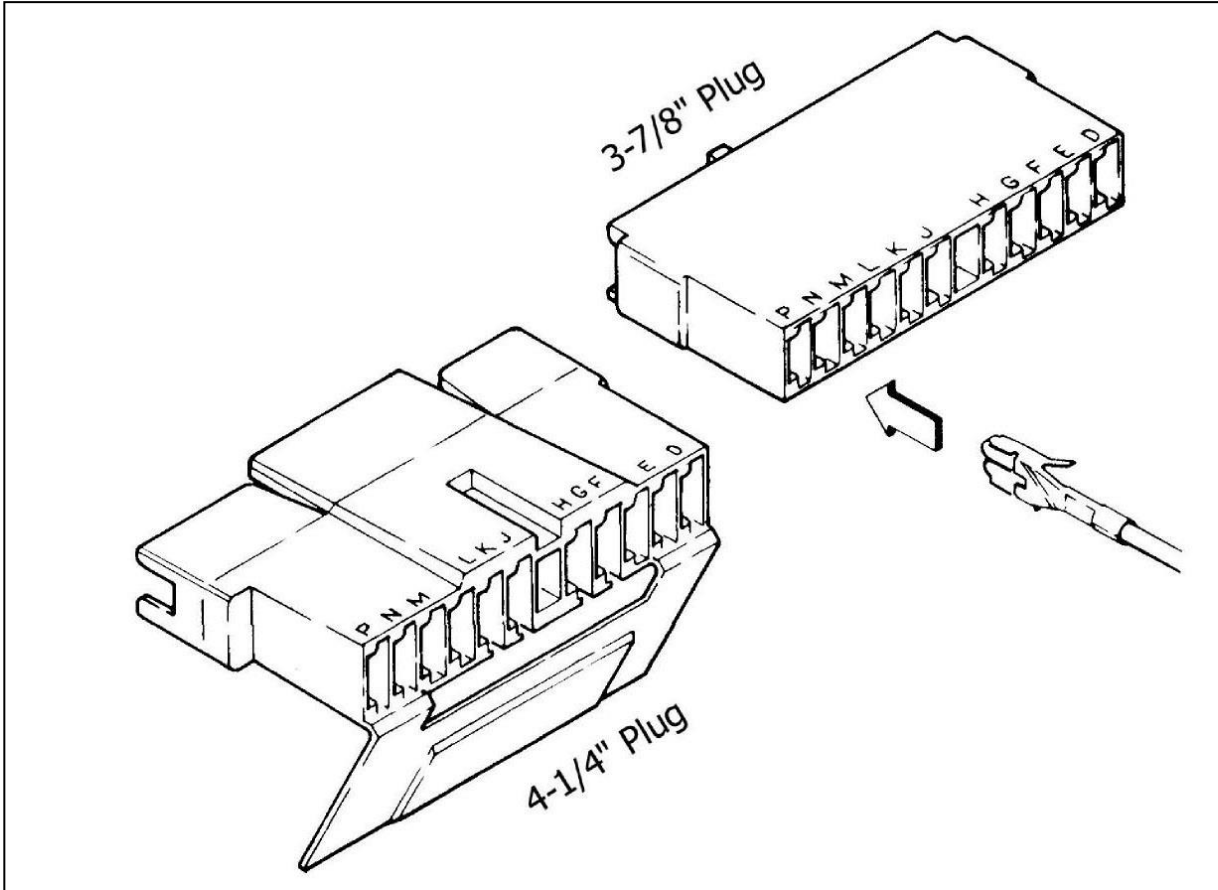

Figure 7.5 GM Turn Signal Connector
To remove the old terminals from your plastic housing, insert a paper clip or an extra small screwdriver into the small slots on each side of the terminals, this will release the tang holding the wire in place. The new connector on the Painless harness will need to be removed in the same manner as well. Pull the wire and it should release from the housing. See **Figure 7.5**
Note: *The terminals will only insert into the connector ONE WAY, as shown in Figure 7.5. Make certain you are inserting the wire into the CORRECT LOCATION as the terminals are difficult if not impossible to remove once inserted.*
- 7.5.6** If the steering column has been changed to a later model with different turn signal plugs and possibly a different ignition kit, use Painless part #30805 (Steering Column Pigtail Kit) to assist in the installation. This kit contains the turn signal, ignition switch connectors and color-coded pigtails to splice into the main harness. (See **Figure 7.5**)